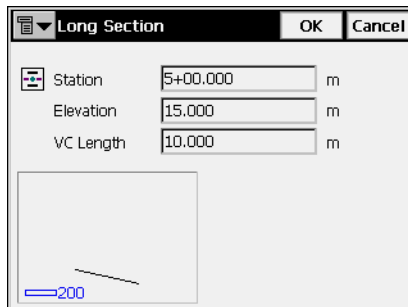

Figure 3-42. Long Section
- **Insert**: opens a blank *Long Section* screen in which to insert an element at the selected location in the list (Figure 3-42 on page 3-34). The bitmap next to the button displays a menu of elements for the Elements vertical alignment type.
- **Add**: opens a blank *Long Section* screen for adding an element to the end of the list (Figure 3-42 on page 3-34). The bitmap next to the button displays a menu of elements for the Elements vertical alignment type.